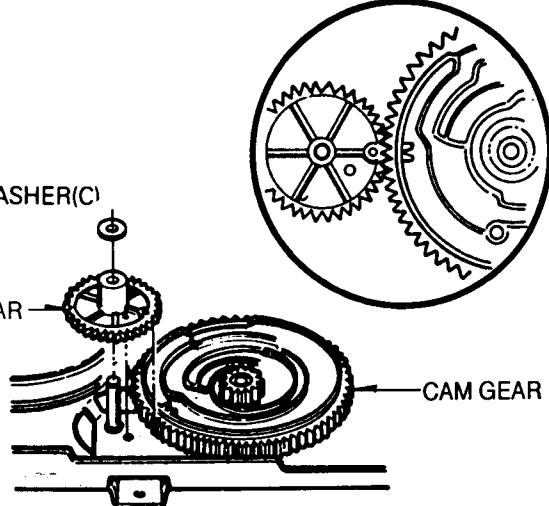

Fig. B-26 PC Gear
- ① Align the Projection of Rack Gear T with the hole of Loading Gear.
- ② Drive the Rack Gear F.L in the direction of arrow(D).
- ③ Hole of Cam should be aligned with the hole of chassis, and the groove(■) of Cam Gear should be aligned with the hole of PC Gear (Fig. B-26).
## 26. PC Gear(Fig. B-26)
① The Groove of PC Gear should be aligned with the groove(V) of Cam Gear, and another hole of it should be aligned with the hole of chassis (Fig. B-26).